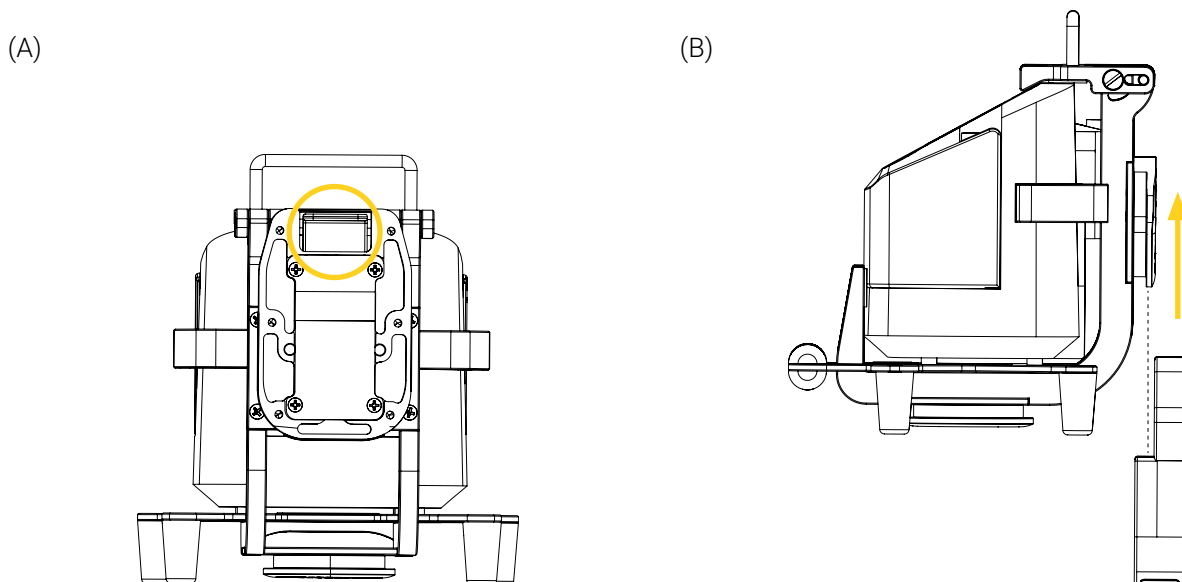

Figure 14: Removing the Bracket Pro Serie 61 – FL from the Micro Base vertically
1. Press and hold the quick release button of the Micro Base, then pull the support bracket upwards vertically out of the base (Figure 14), paying close attention not to wedge the power cords or tubing.